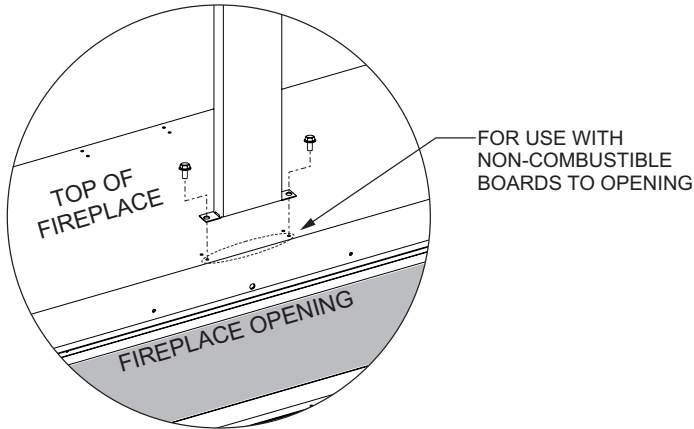

Figure 18 - OPTION 1
- 9a. **OPTION 1** - Secure the brackets to the fireplace top with screws. There are holes located in the top of the fireplace for each standoff bracket. The holes closer to the front edge of the fireplace are for mounting non-combustible board around the opening. **Finishing OPTION 1. See Figure 18.**